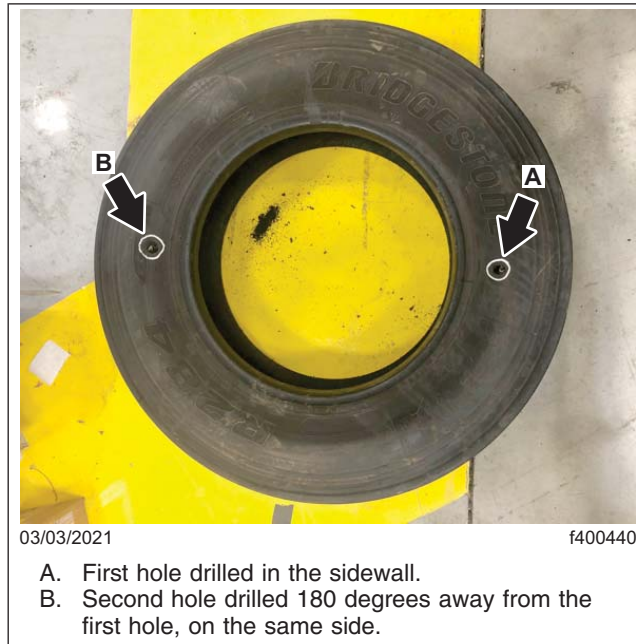

Fig. 5, Both Holes Drilled
- Drill another hole of the same diameter, 180 degrees away from the first hole, on the same side of the tire. See Fig. 5.